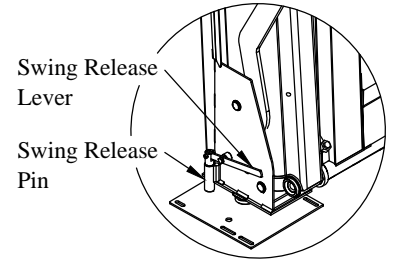

Figure 15: Swing release feature.
13. **Push** down on the swing release lever (Figure 15).